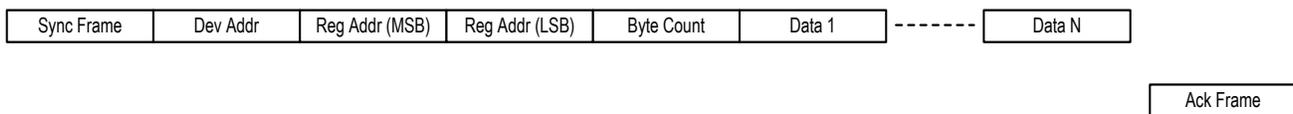

Figure 26. UART Write Protocol Format
The UART write protocol consists of a 5-byte header followed by one or more data bytes (Figure 26). The LSB of the device address frame is 0. The addressed device responds with an Ack frame if no errors are detected and the transmission is valid. The byte count indicates the number of data bytes to be written (N). This must be a non-zero number.